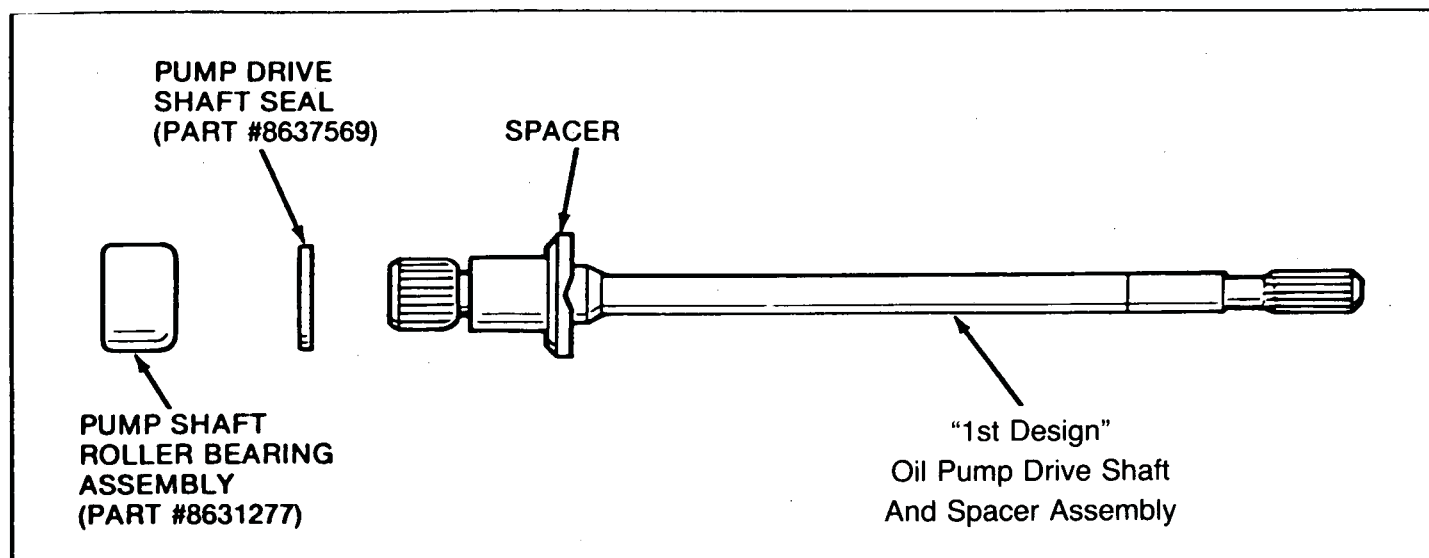
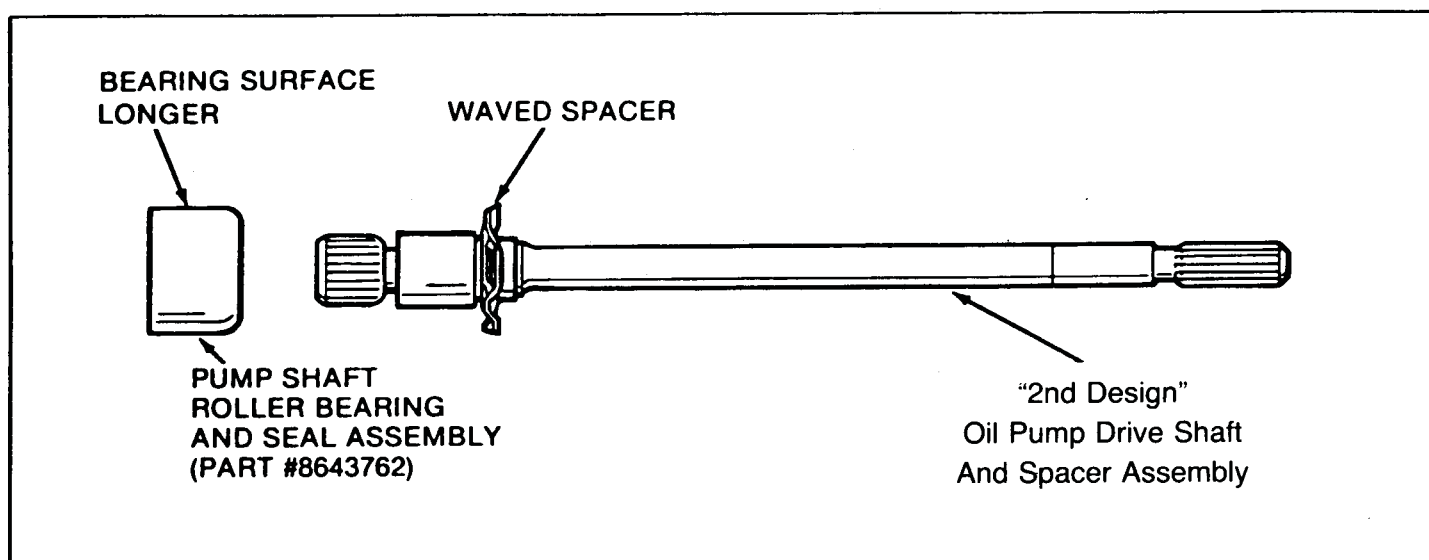

Figure 46
Figure 47
The 1st design parts (See Figure 46) are not interchangeable with the 2nd design parts (See Figure 47) for the following reasons.
- 1) The 2nd design oil pump drive shaft and spacer assembly has a thinner spacer and a longer bearing journal diameter to accommodate the 2nd design pump shaft bearing and seal assembly (See Figure 47).
- 2) The 2nd design pump shaft bearing and seal assembly was also made longer to incorporate the seal as part of the bearing assembly (See Figure 47).